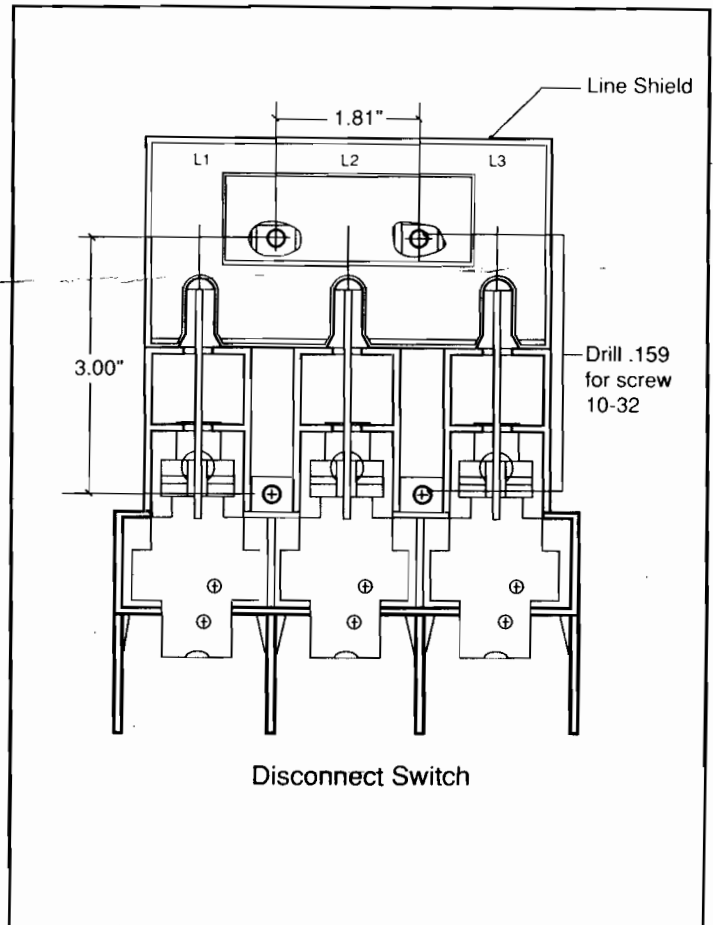

Figure 1
3. Located switch as required by handle operating mechanism. Drill and tap the switch mounting holes (4 holes) as shown in Fig. 1.